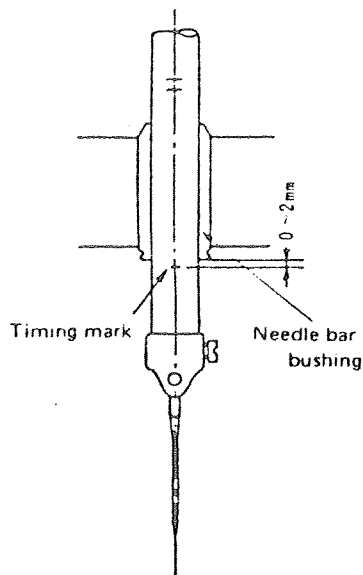

Fig. 3
- (3) Turn the machine until the take-up lever reaches its highest position and put the timing mark on the needle bar is positioned as shown in Fig. 3.
At this point make certain that the timing mark on the needle bar is located 0 — 2 mm below the bottom surface of the needle bar bushing as shown in Fig. 3. If the needle bar is in the wrong position, adjust the position according to instruction I-6.